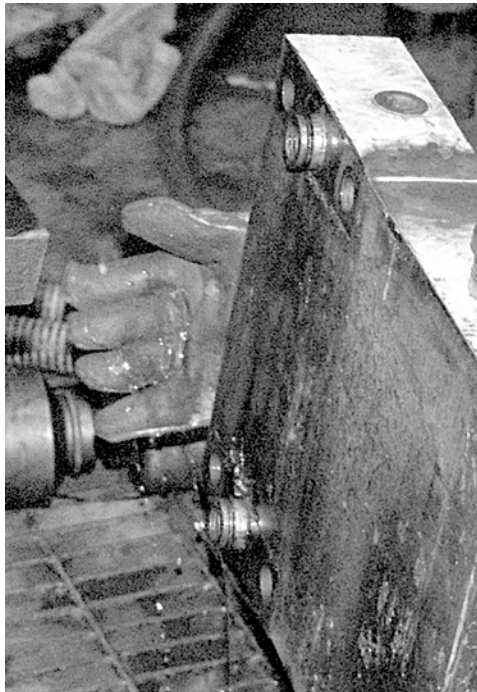

Figure 5-22. Install of Housing Seal Sub into Door
9. Install the housing seal sub into the door (see Figure 5-22).